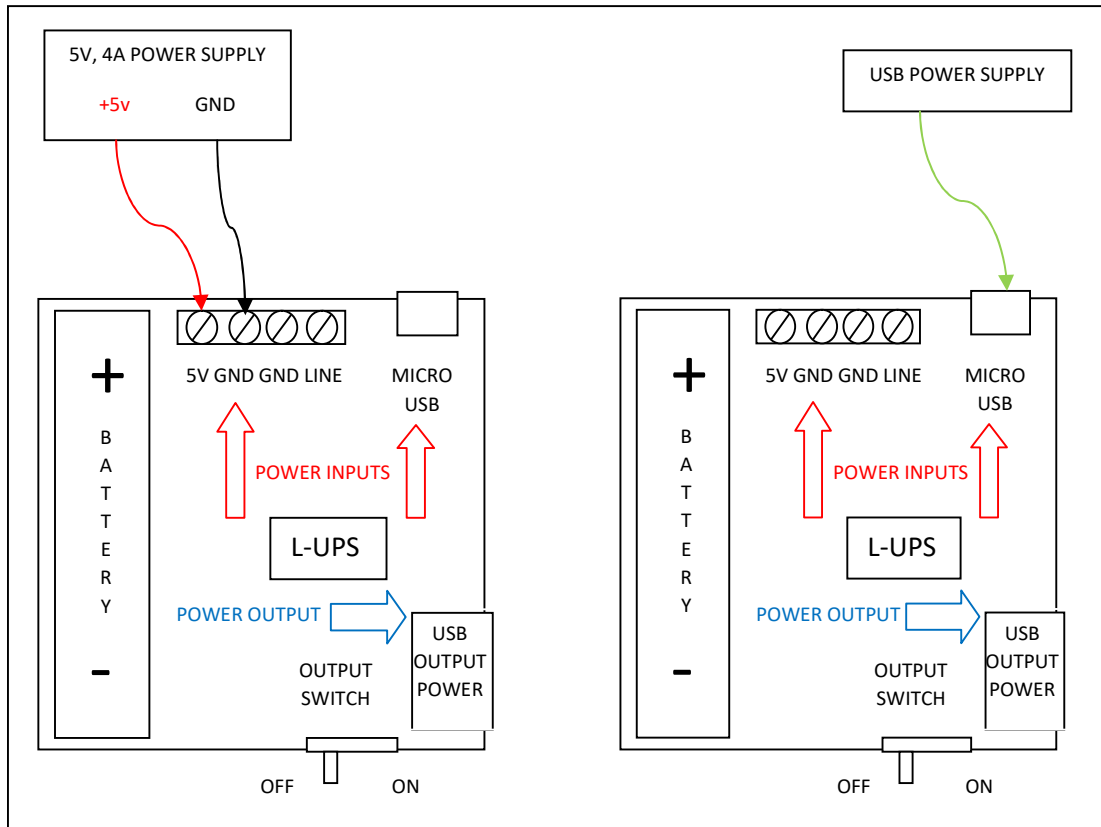

Figure 1. Two options of connecting input power to the L-UPS
*****Important note***** Please use only one of the input power connection options at a time shown in figure 1. Please only use the micro USB input power option for load currents of less than 1.5 amperes.
- 1) Insert a 18650 Battery into the battery holder. Pay close attention to the polarity of the battery as it should only be inserted as shown in figure 1. Reversing the battery polarity could cause permanent damage to the L-UPS board.
- 2) There are 2 ways of connecting power to the L-UPS board as shown in figure 1. Please only use one input power method at a time. A 5 volt, 4 ampere power supply is recommended but typically the power supply should be rated 1 ampere above your expected load current. As an example, if you are going to power a load requiring 2 amperes of current then you should select a power supply capable of delivering 3 amperes of current. Please connect the power supply option of your choice as shown in figure 1.
- 4) This step is optional. If powering a micro computer like a raspberry pi etc... and it is desirable to automatically shut down the micro computer when the L-UPS battery is close to being depleted, please connect the line output terminal from the L-UPS to one of the GPIO pins of the micro computer as shown in figure 1. The line output terminal is open collector and a pull up resistor configuration will be required on the specific GPIO pin that will be used. When the L-UPS senses that the battery is low, it will pull the line output low. This "low" line signal can be read by the micro computer which could then safely shut down. The L-UPS will shut down 15 seconds from the time the line output goes low.